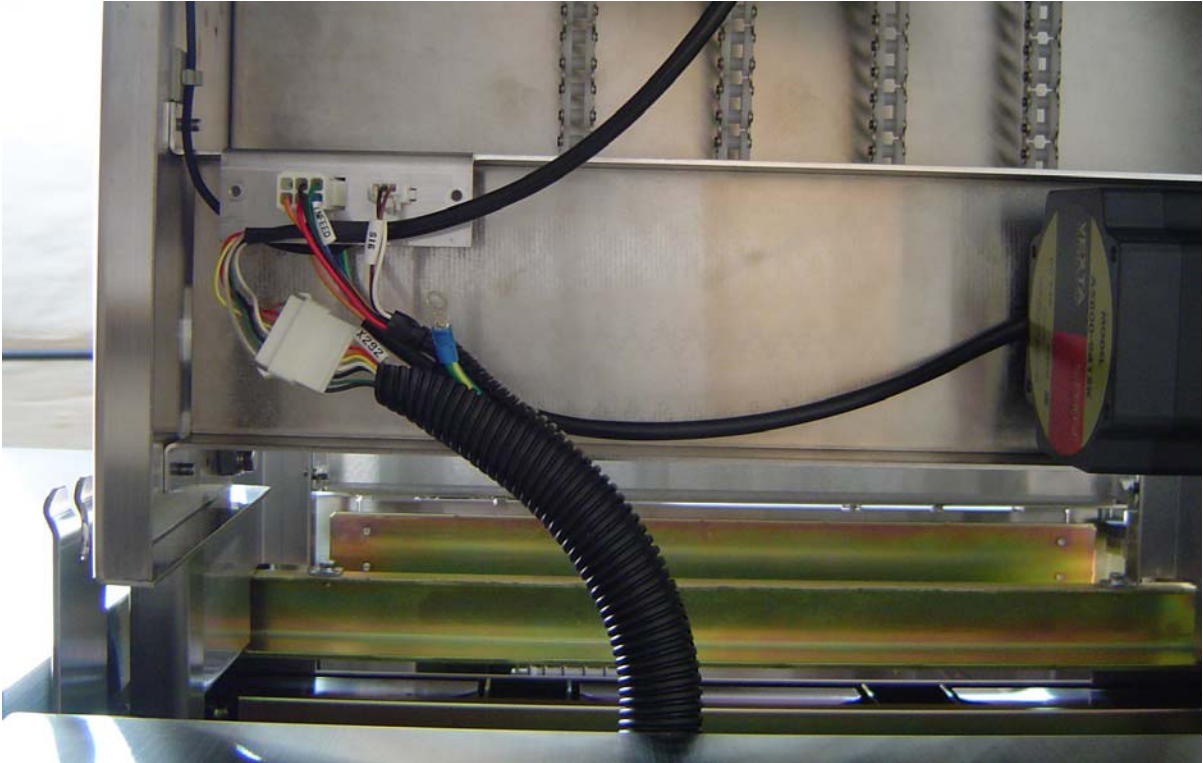

Figure 1. Infeed Conveyor cable connections (underside): S16, X292, INFEED.
- c. Disconnect three cables: S16, X292, INFEED **[See Figure 1]**